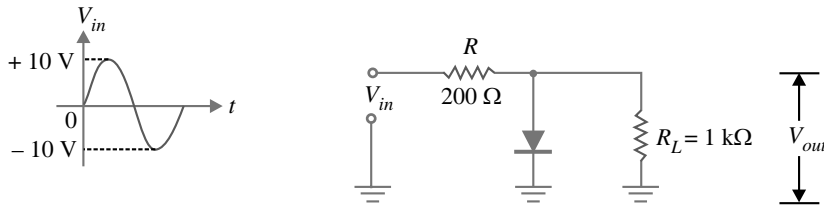

Fig. 16.38
**Example 16.15.** The positive shunt clipper shown in Fig. 16.38 has the input waveform as indicated. Determine the value of  $V_{out}$  for each of the input alternations.
**Example 16.16.** In Fig. 16.38, what is the purpose of using the series resistance  $R$ ?